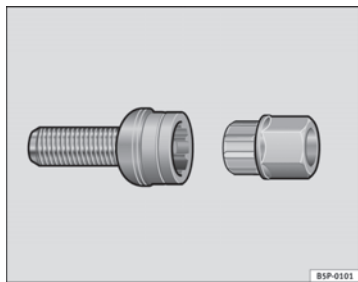

Fig. 197 Anti-theft wheel bolt
- Insert the adapter onto the wheel bolt and push it on as far as it will go ⇒ fig. 197.